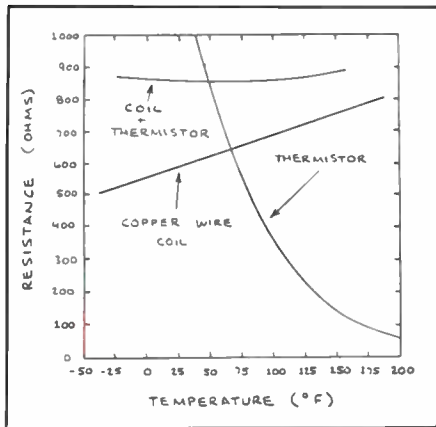

Fig. 6. Graphical depiction of how a thermistor temperature compensates a meter coil.
• **Temperature Compensation.** A thermistor's NTC makes this device very useful as a temperature-compensating device. For example, a thermistor can be used to correct the PTC error of the copper wire in the coil of an electromechanical meter movement or the winding of a relay, motor or generator. Figure 6 is a
Figure 6 also shows the combined resistance of the coil and the thermistor when the latter is connected across the former. As this illustration clearly reveals, the thermistor almost eliminates the meter coil's temperature error. The curves shown in Fig. 6 are adapted from "NTC Thermistors," a brochure published by Sensors Scientific, Inc.
• **Linear Thermistor Networks.** Parallel connection of a thermistor across the coil of a meter movement that provides the linear curve shown in Fig. 6 is a simple form of a linear thermistor network. This and many other thermistor/resistor networks can be made from individual components or be purchased as integrated networks. For example, Fenwal Elec-